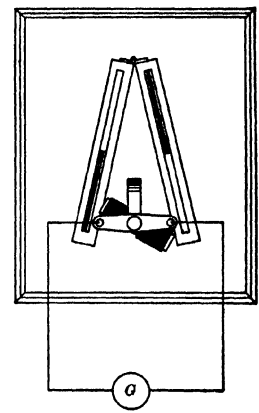

FIG 82
**VI. Dynamo.** Remove the electromagnet attachment, swing the permanent magnets into place, and connect the motor to a galvanometer, as in Fig. 82. Try the following experiments.